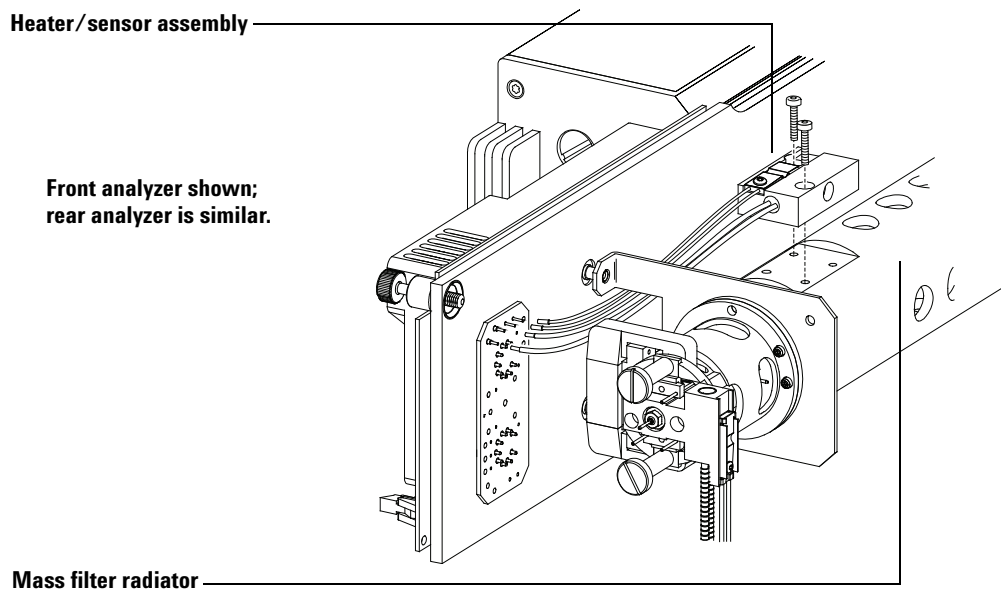

Figure 14 Mass filter heater and sensor
- 4 Remove the mass filter heater assembly from the mass filter radiator by removing the two screws. See Figure 14 for the front mass filter. The rear mass filter heater/sensor removal is similar.
- 1 Unpack the new mass filter heater assembly (Figure 14). The heater, temperature sensor, and heater block are already assembled.
- 2 Install the heater assembly on top of the mass filter radiator using the two screws. See Figure 14 for replacing the front mass filter heater/sensor. The rear mass filter heater sensor is similar.